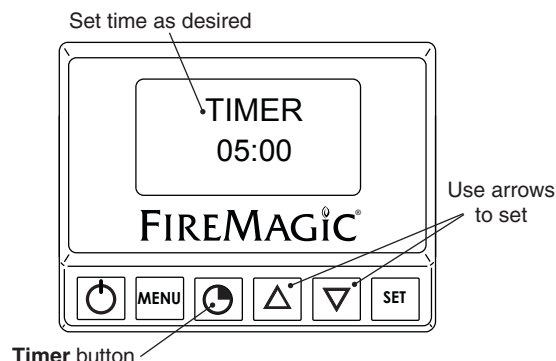

Fig. 16-4 Timer screen
1. Press the timer button. Use the arrows to set the desired amount of time (see Fig. 16-4).